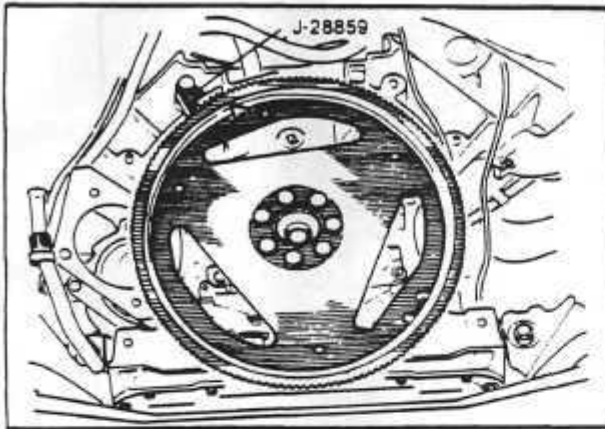

Fig. 28 FLY WHEEL LOCKING TOOL
2. Install the flex plate lock Tool J28859 and remove seven (7) flex plate bolts and discard. *Fig. 28*